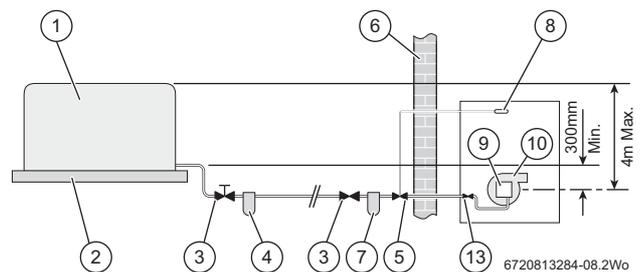

Fig. 7 Single pipe feed
**Key to Oil supply illustrations, figures 7, 8 & 9**